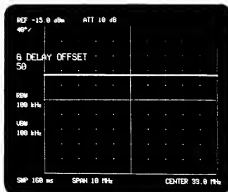

Fig. 7-4 Elimination of phase rotation
- ⑥ If phase rotation is observed, press the [G.D. OFFSET] key to activate the electrical length. Then adjust the phase response to flat with the DATA knob or DATA step keys (Figure 7-4).